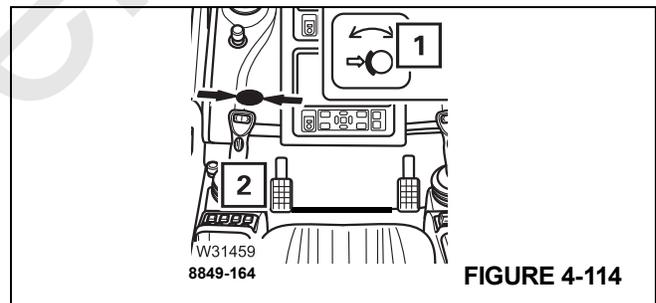

FIGURE 4-114
The lamp (1), (Figure 4-114) will light up if the swing brake has been applied.